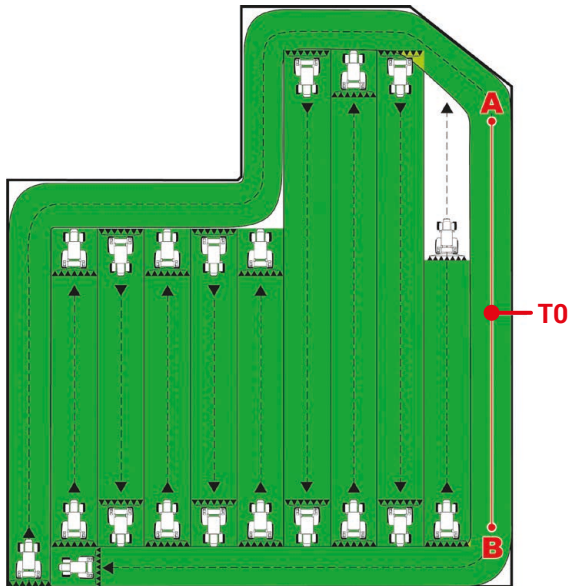
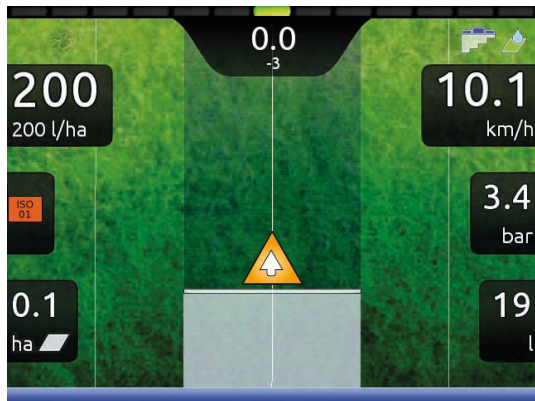

Fig. 268
Fig. 269
- Once the line from A to B has been marked (TO), it will be possible to spray the rest of the field along parallel lines, (Fig. 268), by following the reference tracks shown on the display (Fig. 269).